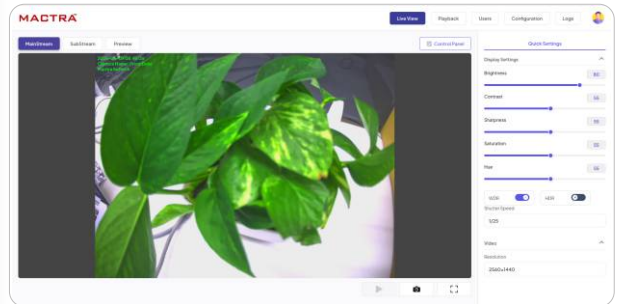

Figure 4: Live Video Preview
- After successful authentication, the camera's live video preview will be displayed, as shown in **Figure 4**.